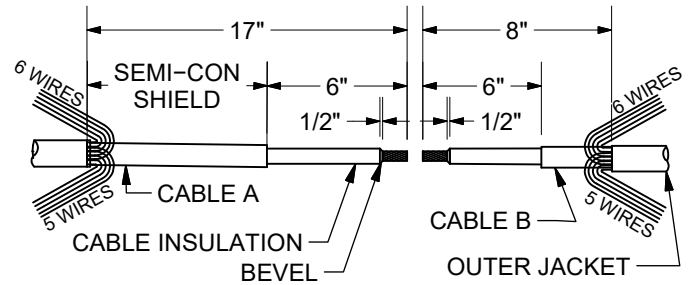

Figure 2
4. Train the concentric wires in two bundles each side, five and six wires per bundle. See Figure 2.
6. Strip cables for splicing per Figure 2, clean cables - **DO NOT USE SILICONE SPRAY ON CABLE OR JOINT.**